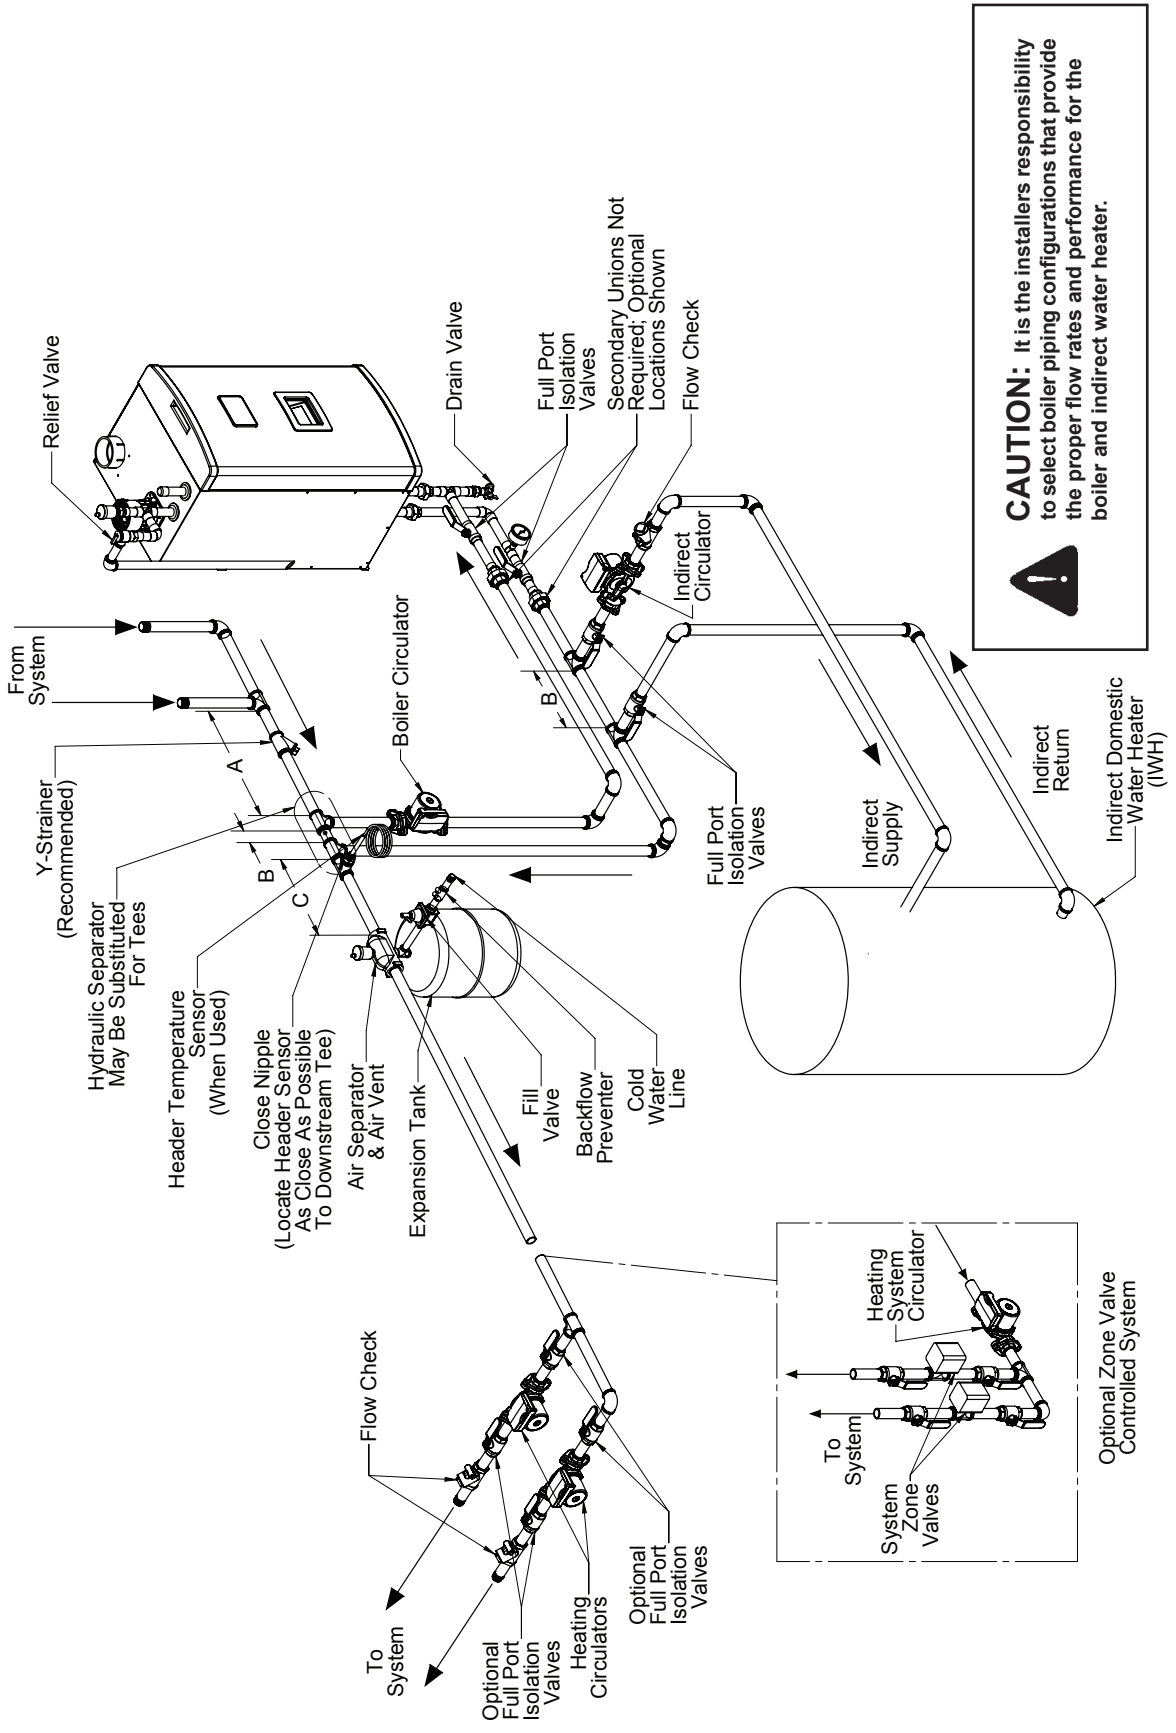

Figure 9.7b: Piping Method #1 - Near Boiler Piping - Heating Plus Supply Piped Indirect Water Heater HX Inlet Bottom Connection; HX Outlet Bottom Connection
This method can be used in heat-only applications as shown in Figure 9.7a or 9.8a or with an indirect water heater as shown in Figure 9.7b, 9.7c, 9.8b, 9.8c. In this system, the flow rate through the boiler (“secondary loop”) is completely independent of the flow rate through the system (“primary loop”). Use the following guidelines to ensure that the boiler will have the required flow shown in Table 9.3 regardless of the flow in the heating system.
- 3) Indirect Water Heater Loop Piping – If an indirect water heater is used, install it as shown in Figure 9.7b, 9.7c, 9.8b, 9.8c. Refer to the indirect water heater installation manual for the proper sizing the indirect water heater loop pump and piping.